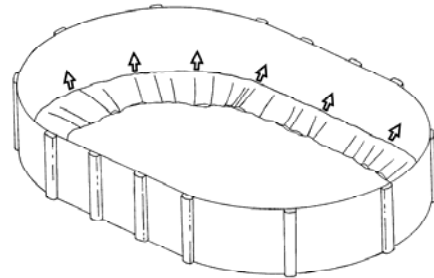

Figure 14.1
- Unfold the liner making sure it is right side up bringing the bottom seam along the base of the pool wall (figure 14.1).